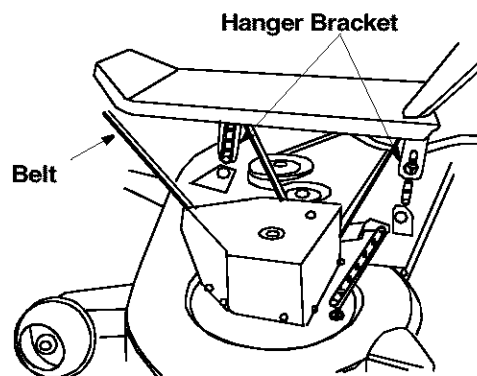

Figure 12
- Lift up on the edge of the deck and attach the left front deck hanger to the deck using a flat washer and hairpin clip. Make sure deck hanger goes through the center of V-Belt. See Figure 12.